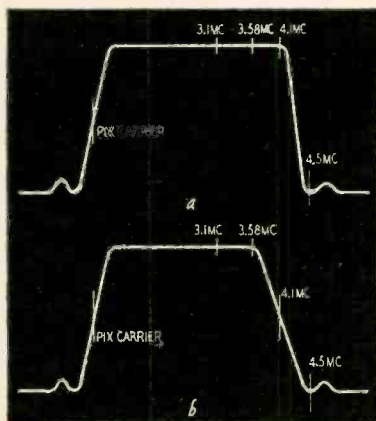
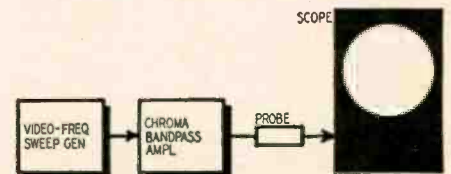

Fig. 1—If passband: a, flat response through color signal region (3.1–4.1 mc); b, falling response from color sub-carrier to 4.1 mc.
Fig. 2—Test setup for Photo B curve.
signal in the if amplifier. If the response of the if amplifier could be maintained flat from 3.58 to 4.1 mc, then the bandpass amplifier could be aligned also with a flat response. But since there is usually some attenuation of the color signal in this region (Fig. 1), the bandpass amplifier must be aligned with rising response here.
The test setup of Fig. 2 is used to check bandpass amplifier response. Exact details of connection points are usually provided in the service notes for the color TV receiver and should be consulted. If the response of Photo B is observed, it may be expected that this signal section of the receiver will introduce certain transient irregularities in the reproduction of a color bar signal.
There is an alternative method of viewing the frequency response of the bandpass amplifier with a wide-band scope, which is preferred by some technicians. This is the *undemodulated* type of response obtained when the test setup of Fig. 2 is utilized, *omitting the demodulator probe*. The undemodulated response shown in Photo H is for the same bandpass amplifier whose demodulated response is illustrated in Photo B.
**T**HE basic reasoning behind the design of any TV antenna installation can be stated simply: Get the antenna a certain distance into the air and keep it up there. To do this many installations can be made much easier and simpler by using triangular metal towers instead of the more common tubular masts. This is especially true when extremely high antennas—from 40–50 feet on upward—are needed. If a fringe-area type antenna is being erected, using a large antenna rotator and a heavy dual array similar to the kind shown in Fig. 1, the tower will make a much better and stronger installation.
Another desirable feature of towers is that they can be climbed with ease. Many makes have steps built into them as a part of the bracing. (See Fig. 2.) By using these steps, making repairs to the antenna, lead-in, rotator, etc. becomes almost as easy as climbing a flight of stairs. Antenna changes or replacements may be made with ease.
Fig. 1, left—Fringe-area antennas mounted on tower. Horizontal boom is made of mast section and supports the right side of tower where no guy wires could be erected Fig. 2, right—Tower steps permit climbing, facilitating adjustments, replacements or repairs.